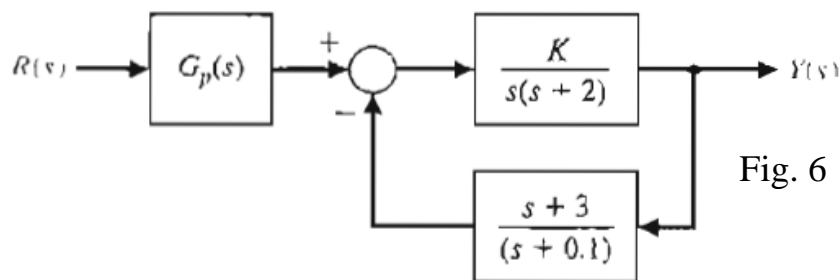

Fig. 6
- 7) For the control system shown in Fig. 6, Determine the steady-state error for a unit step when  $K = 0.4$  and  $G_p(s) = 1$ . Select an appropriate value for  $G_p(s)$  so that the steady-state error is equal to zero for the unit step input.